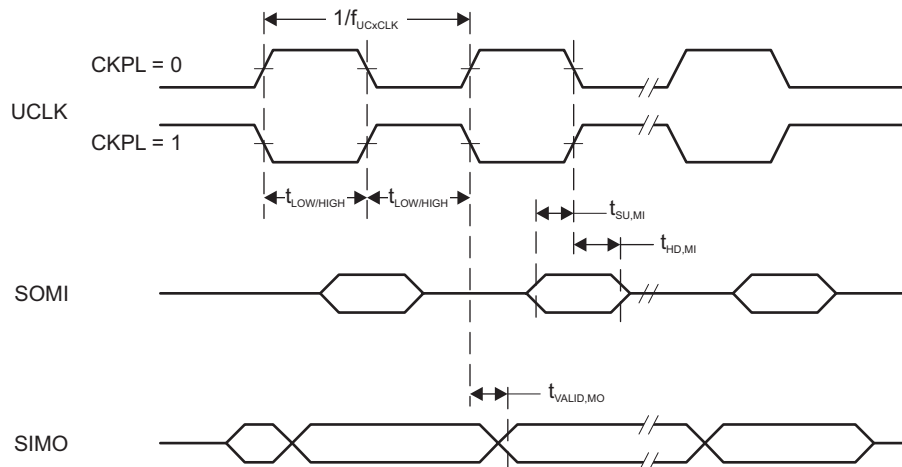
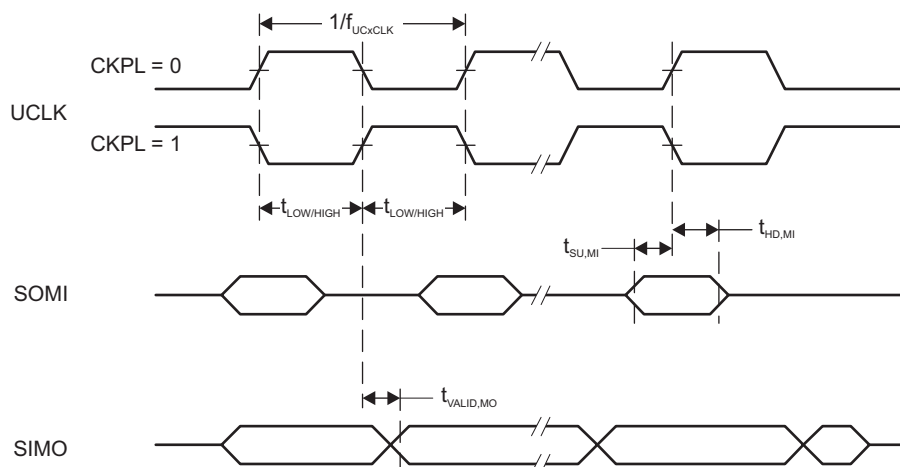

Figure 5-11. SPI Master Mode, CKPH = 0
**Figure 5-12. SPI Master Mode, CKPH = 1**
- Specifies the time to drive the next valid data to the SIMO output after the output changing UCLK clock edge. See the timing diagrams in Figure 5-11 and Figure 5-12.
- Specifies how long data on the SIMO output is valid after the output changing UCLK clock edge. Negative values indicate that the data on the SIMO output can become invalid before the output changing clock edge observed on UCLK. See the timing diagrams in Figure 5-11 and Figure 5-12.